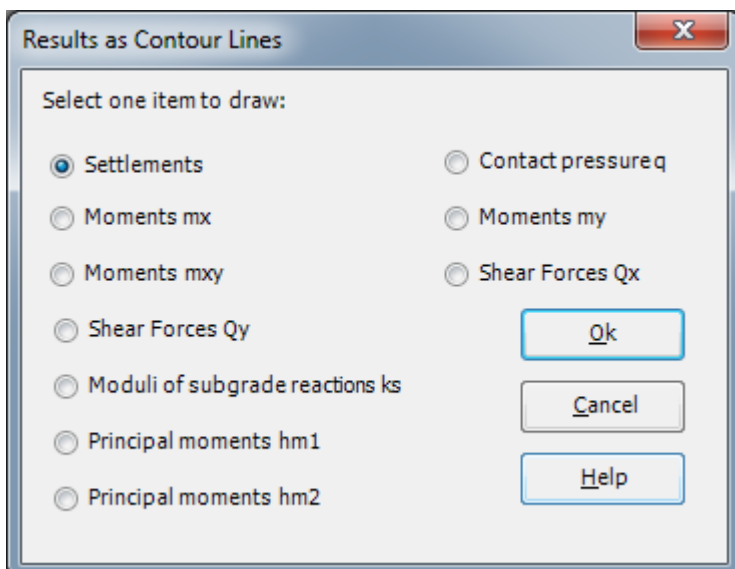

Figure 10.37 "Results as Contour Lines" option box
- Choose "Contour Lines" command from "Result" menu. The following option box in Figure 10.37 appears